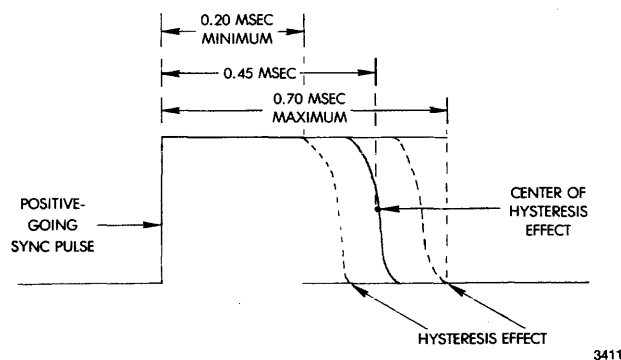

Figure 6-3. AC Motor Speed Control Signal Pulsewidth
- (1) Establish test configuration described in Paragraph 6.6.3.1.
- (2) Observing the waveform displayed on Channel 1 (TP2), adjust potentiometer R201 so that the hysteresis effect occurs between 0.20 msec and 0.70 msec as shown in Figure 6-3. Ensure the oscilloscope is still synced on the positive-going edge of the pulse. The hysteresis effect should be centered 0.45 msec from the positive-going sync pulse. Readjustment of R201 may be necessary to center the hysteresis effect at 0.45 msec.
- (3) Remove power from the drive.